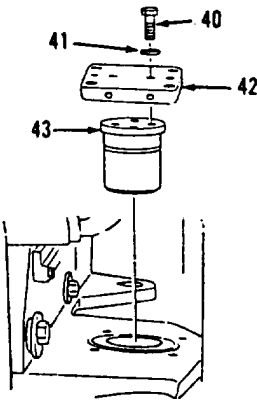

Figure 16-11.
6. Install pin (43), plate (42), two lockwashers (41) and bolts (40, Figure 16-11).